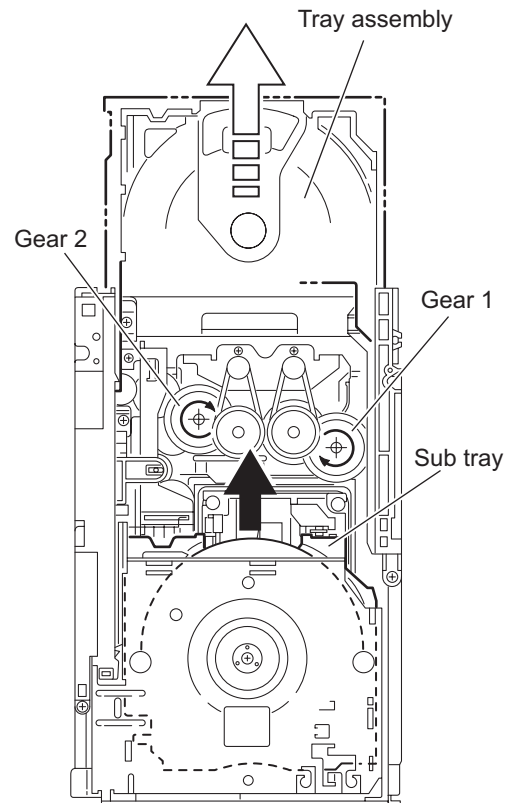
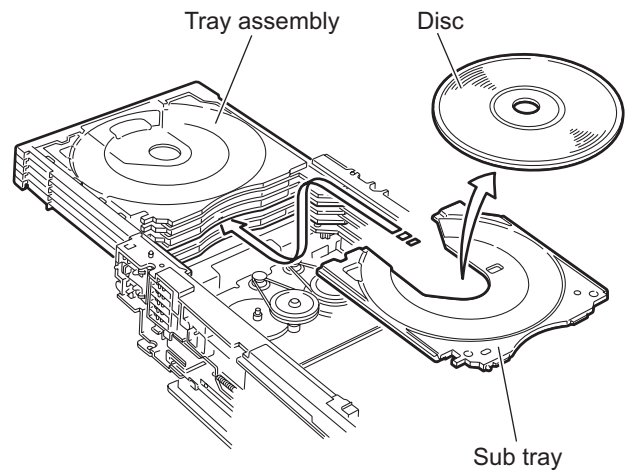

Fig.34
Fig.35
3.2.15 Taking out the disc in the play mode (See Fig.34 to 37)
- (1) From the top side of the DVD changer mechanism assembly, remove the top cover.
- (2) Unlock the tray assemblies and draw out the tray assemblies toward the front.
- (3) From the top side of the DVD changer mechanism assembly, turn the gear 1 clockwise to move the lifter assembly upward. (See Fig.34.)
- (4) Turn the gear 2 clockwise to move the sub tray remaining inside the lifter assembly toward the front, then pull out.
- (5) Take out the disc on the sub tray. (See Fig.35.)